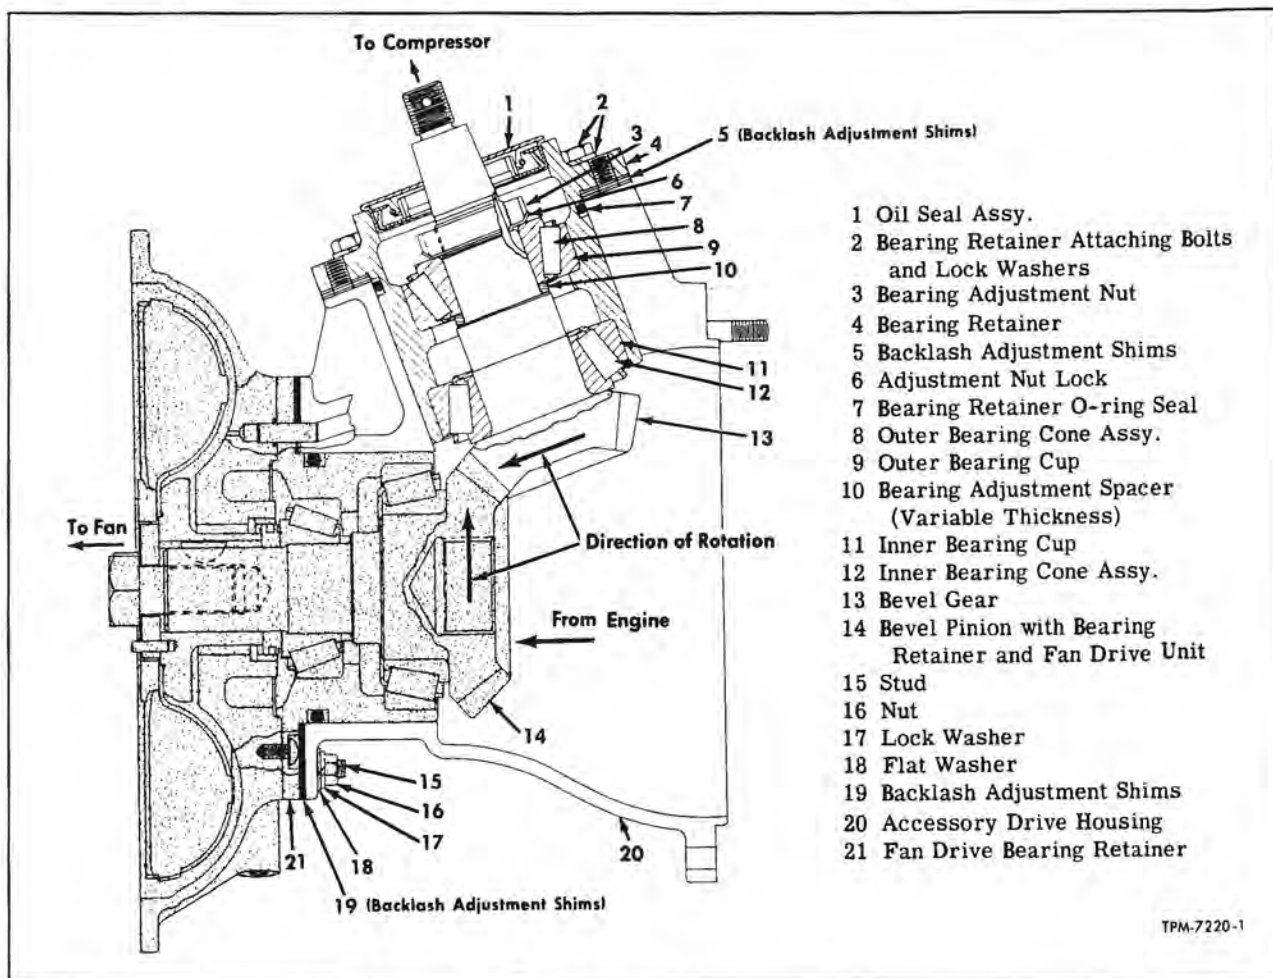
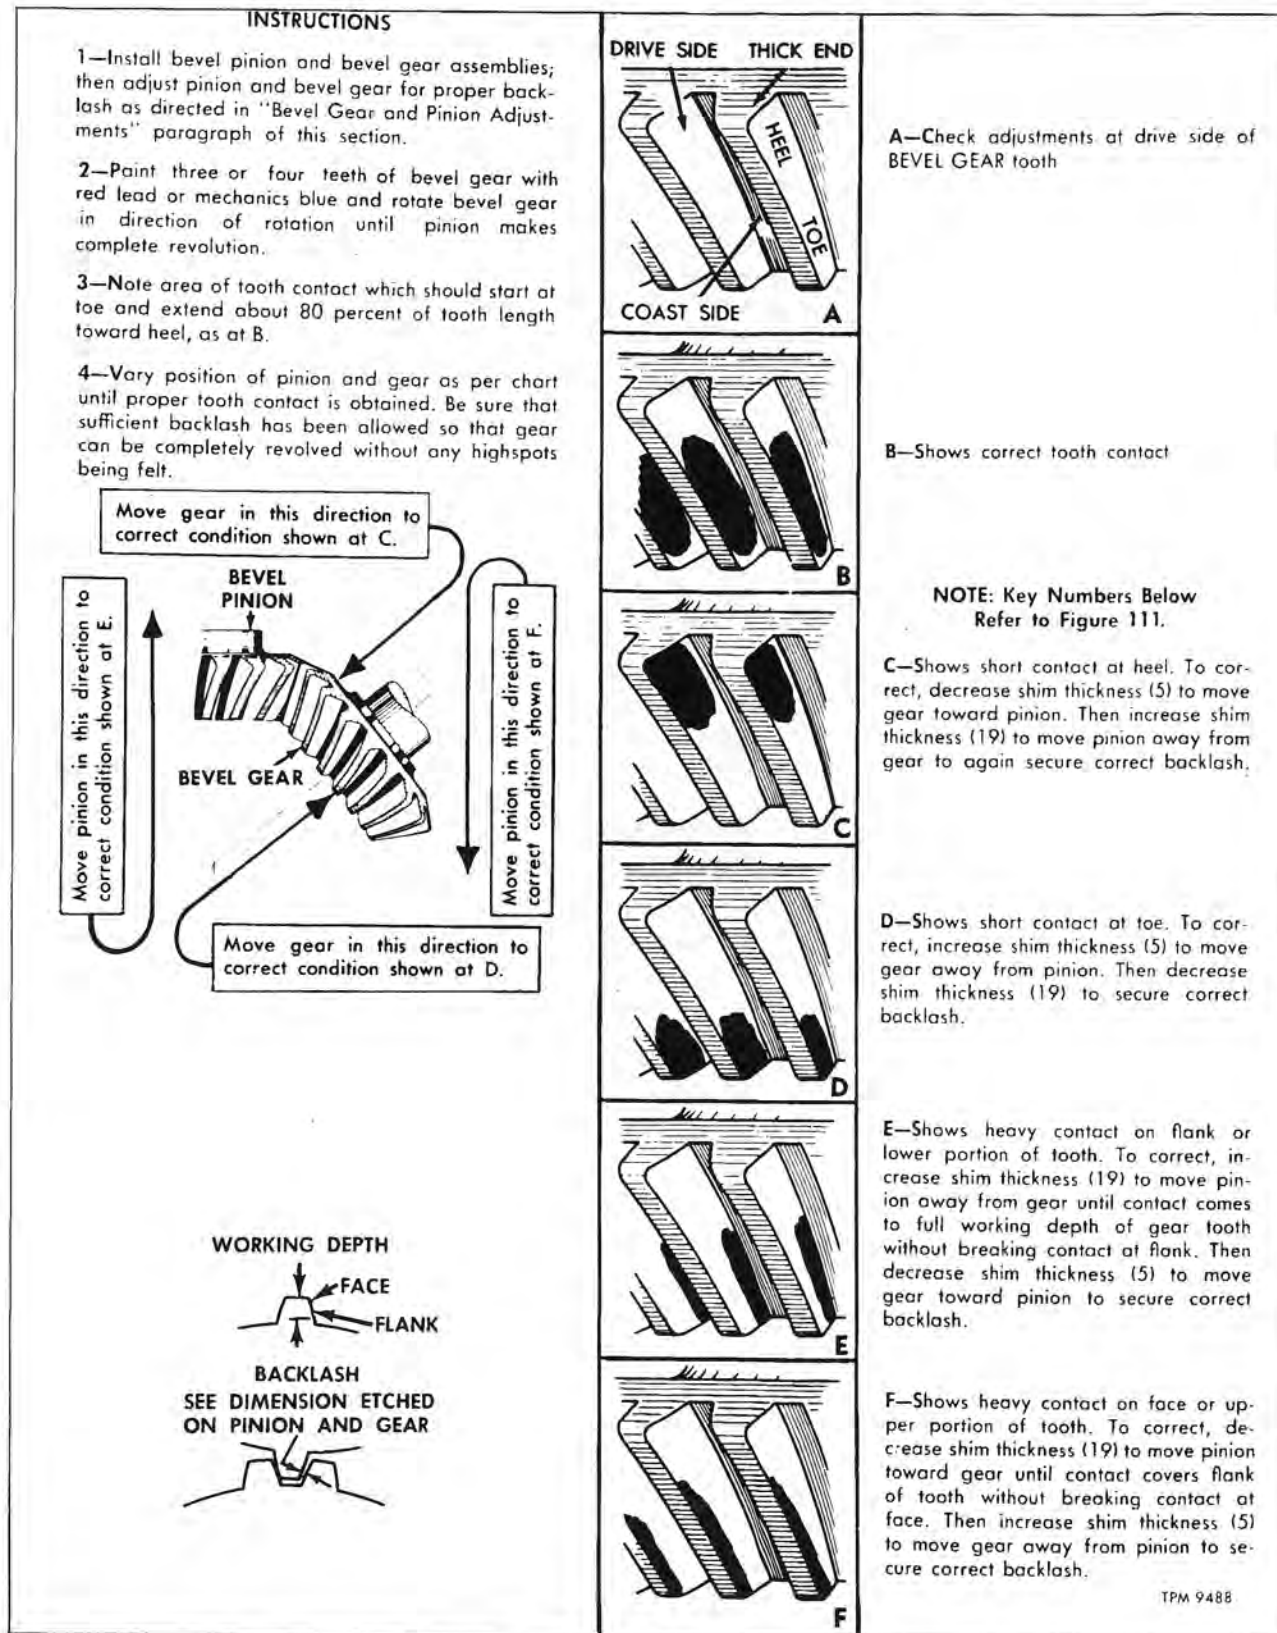

Figure 111—Compressor Accessory Drive
Figure 116—Accessory Drive Bevel Gear and Pinion Tooth Contact Chart
The accessory drive, as used to transfer power of coach engine to operate the air conditioning refrigerant compressor, consists of a bevel drive gear and pinion enclosed within engine fan drive housing, as shown in figure 93. Sectional view of gears installed in housing is shown in figure 111.
Referring to figure 111, engine torque is transferred from fan drive pinion (14) to the bevel gear (13) at a ratio of 1.388 to 1 on all models except model SDM5301 with 8-cylinder engine which has a ratio of 1.588 to 1.
Bevel gear (13, fig. 111) is supported in bearing retainer (4, fig. 111) on two taper roller bearings which are lubricated by engine oil pressure
through internal drilled passages. Bearing retainers (4 and 21, fig. 111) of both gears can be .001" press fit or .001" loose fit in opening of accessory drive housing (20, fig. 111).
Adjustment of gear backlash and tooth contact is accomplished by removing or adding shims (5 and 19, fig. 111) which relocate position of one gear in relation to the other. Instructions for making adjustments are explained later under "Bevel Gear and Pinion Adjustments."
NOTE: Key numbers in text refer to figure 111.
NOTE: Key numbers in text refer to figure 111. Coat all parts in clean SAE 30 engine lubricant when assembling unit.
NOTE: Key numbers in text refer to figure 111. To facilitate installation, the gear and retainer unit can be cooled and the accessory drive housing can be heated.
4. Turn bevel pinion in direction of rotation (fig. 111) and observe tooth contact impression on drive side of gear teeth. Contact should start at toe of tooth (view B, fig. 116) and extend back about 80% of tooth length toward heel. Contact should be distributed evenly over flank and face of tooth, indicating center of contact on pitch line. Refer to views "A" and "B," figure 116.
a. If tooth contact is too far out on tooth toward heel (view C, fig. 116), decrease thickness of shim pack (5) between bevel gear bearing retainer (4) and accessory drive housing (20), moving bevel gear toward pinion. Restore backlash by increasing shim thickness (19) between pinion bearing retainer
b. If tooth contact extends from toe appreciably less than 80% of tooth contact (view D, fig. 116) move bevel gear away from pinion by increasing shim thickness (5) between bevel gear bearing retainer and accessory drive housing. Restore backlash by decreasing shim thickness (19) between pinion bearing retainer and accessory drive housing.
c. If tooth contact is low on flank of tooth (view E, fig. 116), move pinion away from bevel gear by increasing shim thickness (19) between pinion bearing retainer and accessory drive housing. Restore backlash by decreasing shim thickness between bevel gear bearing retainer and accessory drive housing.
d. If contact is high on face of tooth (view F, fig. 116), move pinion toward bevel gear by decreasing shim thickness (19) between pinion bearing retainer and accessory drive housing. Restore backlash by increasing shim thickness (5) between bevel gear bearing retainer and accessory drive housing.
5. When pinion and bevel gear adjustments have been completed, make certain that all retainer attaching bolts (2) and nuts (16) are securely tightened. Recheck adjustment. Remove all red lead from gears.